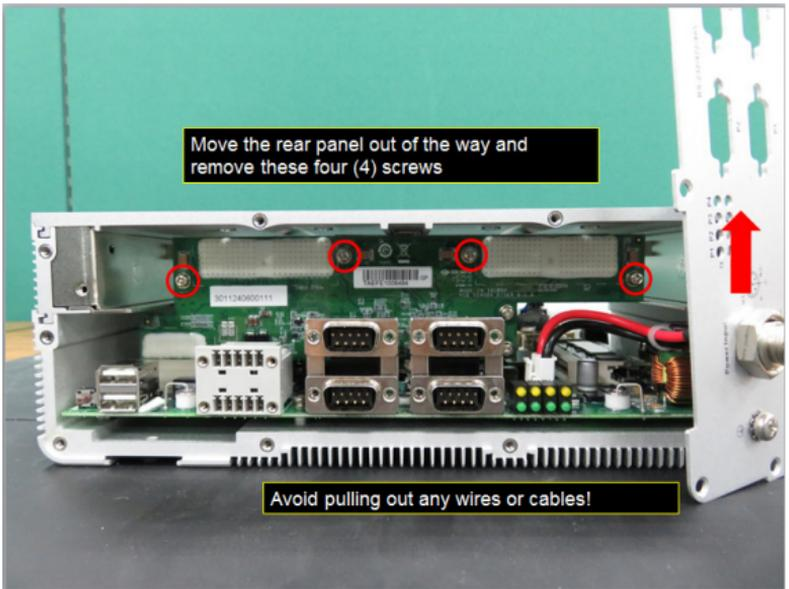

Figure 34
- 4.4.3 Gently rotate the rear panel clockwise and place it vertically beside the computer on the right side without pulling out the wires as shown in Figure 34 and use a Phillips screwdriver to tighten the four (4) screws marked with red circles.